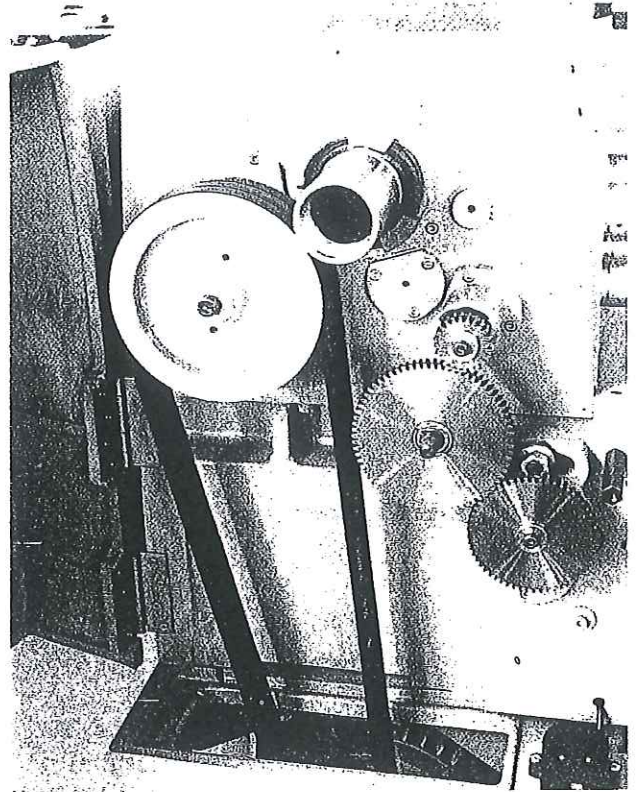
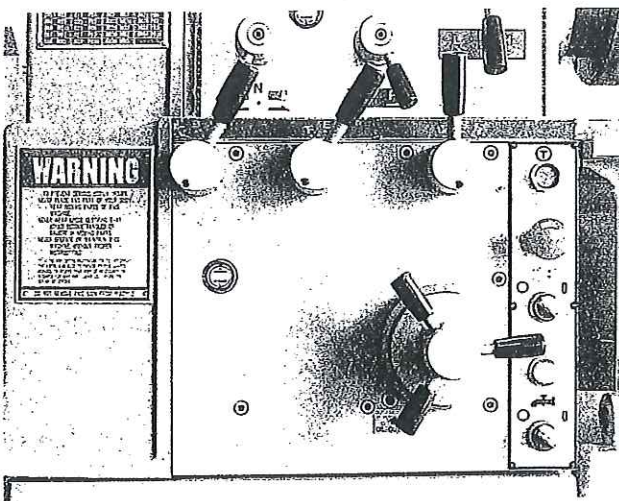

Figure 2
Figure 3
- c. If the problem is not in the headstock, and before you continue to the gear box, check the change gears (Part # 41, 78 & 89) located on the back of the headstock for proper backlash and alignment. (Figure 2) If these gears are found to be in good working order perform the same sequence as above on the gearbox. (engage one control at a time until the problem is located. (Figure 3)